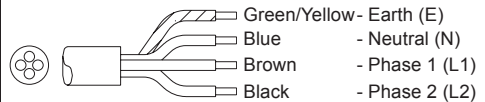

fig. 5
- (fig.5) For 380V 2 Phase (4 core electric cable).